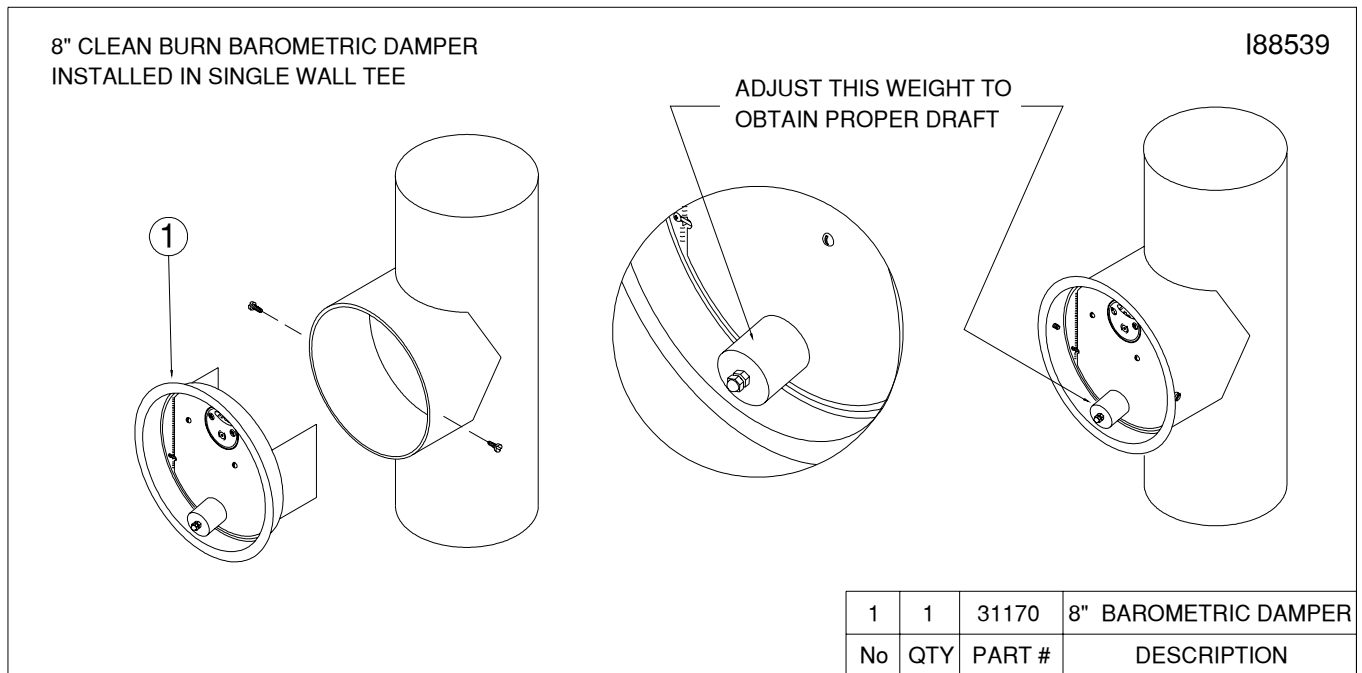

Figure 4J - Installation of Barometric Damper
1. Refer to Figure 4J. Install a single wall tee (min. 24 gauge) on the first straight vertical or horizontal stack section within three feet of the CTB breach.
3. Install two self-tapping screws as shown in Figure 4J (i.e. one on each side of the barometric damper) to hold the damper in place. **DO NOT** install a screw at the bottom of the barometric damper, or the flapper of the damper will not operate correctly.